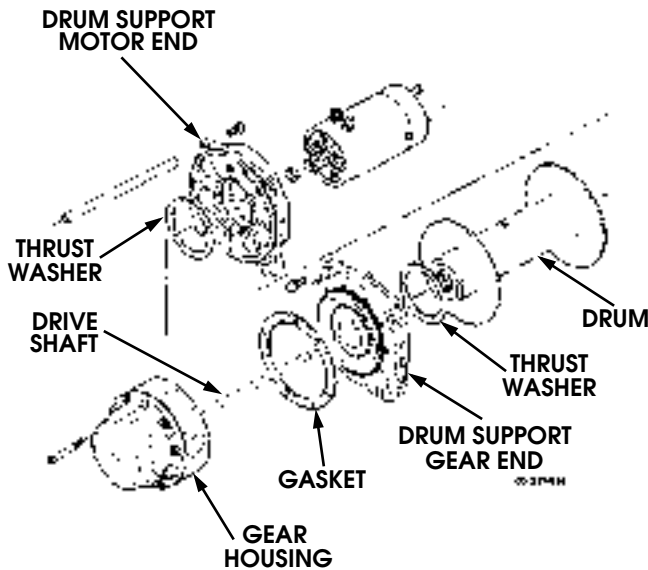

Figure 13-12: Drum Assembly and Gear Housing Assembly
1. Inspect drum for damage to splined end flanges and tube (Figure 13-12). Replace winch if damaged.